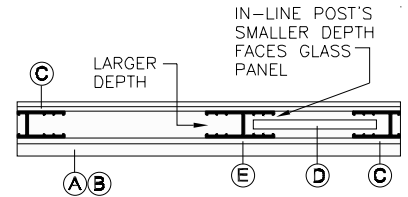

figure 4
7. Insert the In-line Post (E) into the Header and Sill cavities, then slide it over the glass panel as shown in figure 4 (smaller depth faces glass panel). Center the glass panel between the In-line Post and the Wall Jamb (a minimum of 3/8 of an inch insertion either side is required in order for vertical vinyl to work). When satisfied, plumb the In-line Post and secure it to Header and Sill using two 638THS Screws (V). Screw (V) is not self drilling, therefore, pre-drill pilot holes using a 7/64" drill bit.